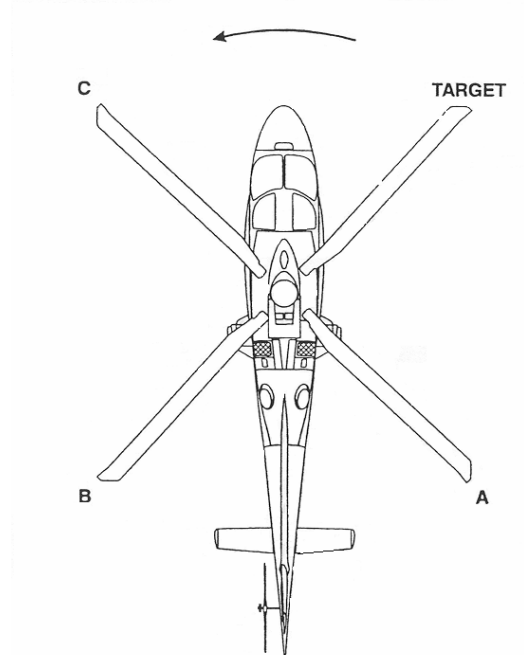

Figure 1
- Rotate Main Rotor until the Magnetic Pickup and Interrupter are aligned. The main rotor blades should be in the orientation shown in (Figure 1). The blade at approximately 2:00, as viewed from the top, will become the "TARGET" blade. The static location of this blade defines the "Aiming Point" for taking track readings. The remaining blades will be identified in passing order as shown in Figure 1 below.
8. The “Aim and fire tracker” screen will be displayed as shown in the example below. Aim the tracker at the point in space occupied by the “TARGET” blade when the magnetic pick-up and interrupter are aligned. (See Section B Figure 1 above) Raise the tracker smoothly towards the rotating rotor disk while observing the LEDs on the back of the tracker.